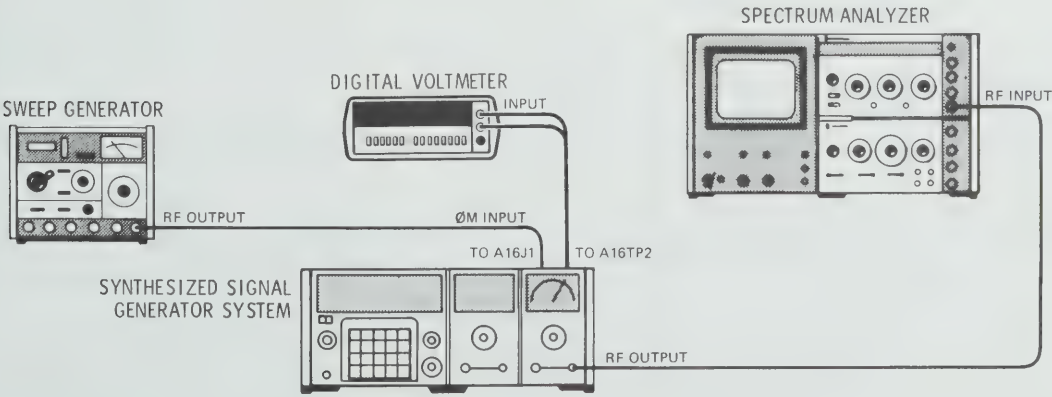

Figure 5-6. Phase Modulator Driver Frequency Response Adjustment Test Setup
4. Connect the equipment as shown in Figure 5-6.